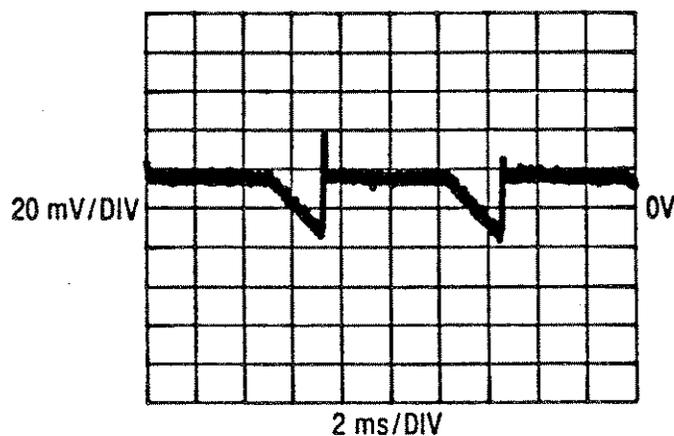

Figure 8-34. Auto Zero DAC Test Signal
1. Using the oscilloscope, compare the waveform at A5U10 pin 4 to the waveform shown in Figure 8-34.
If the displayed waveform is the same as Figure 8-34, the circuit is operating properly. If the Fault Isolation Procedure is being performed and the circuit is operating properly, go to the Offset Removal DAC, Buffer and Gain Compensation Test.
If the displayed waveform is not the same as Figure 8-34, measure the voltage at the collector of A5Q1. The measured voltage should be  $+6.2 \pm 0.4$  Vdc. If the measured voltage is not as stated, continue with the Stable Current Source Test. If the measured voltage is correct, go to step 2.